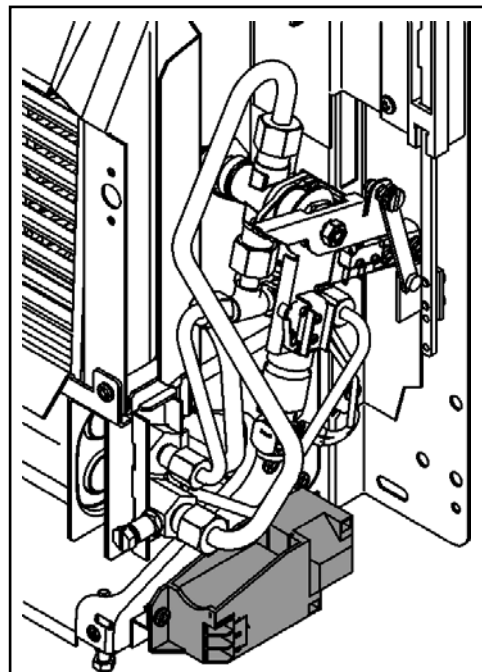

Figure 5. Fitting the battery
1. The electronic ignition unit is located at the base of the fire on the right hand side (See figure 5).